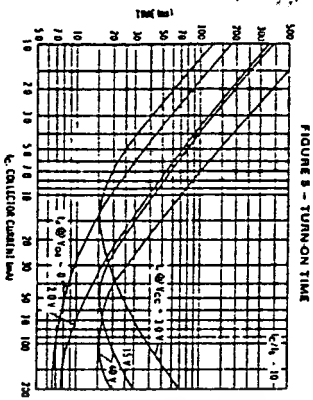

FIGURE 5 - TURN-ON TIME
(1) The 1.0 Amp maximum I_C value is based upon JEDEC current gain requirements. The 3.0 Amp maximum value is based upon actual current handling capability of the device (See Figure 5)